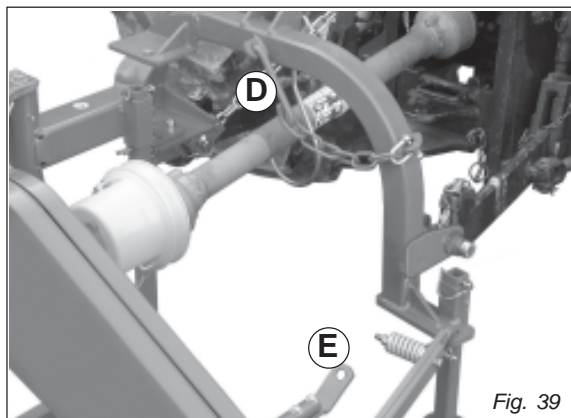

Fig. 39
- Remove safety hook (D, Fig. 39), required only for transportation, and fit it back in the slot positioned above the chassis. Reduce to the minimum length in order to hook it in (E, Fig. 39) with the sickle bar to lower.